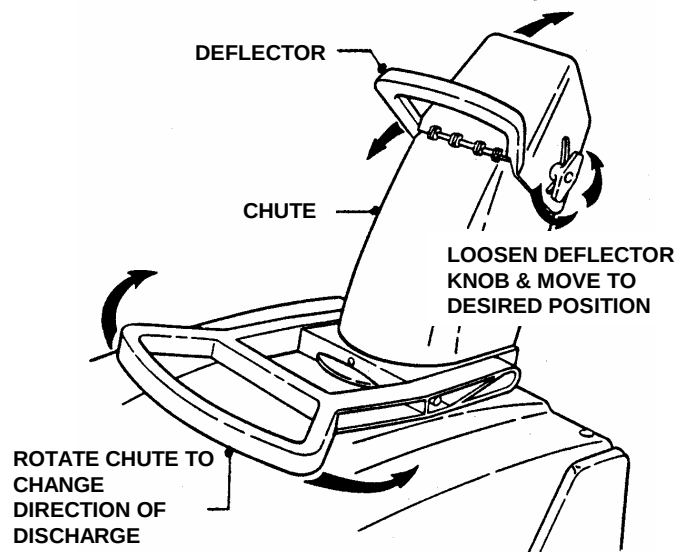

FIGURE 3.6
3. Rotate discharge chute in desired direction. See Figure 3.6.